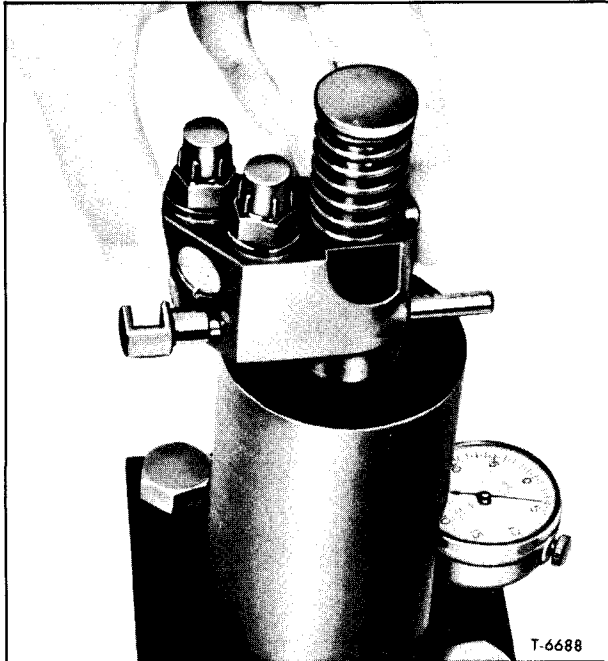

Figure 19—Checking Injector Spray Tip Concentricity
1. Place the injector in the concentricity gauge (J-5119) as shown in figure 19.